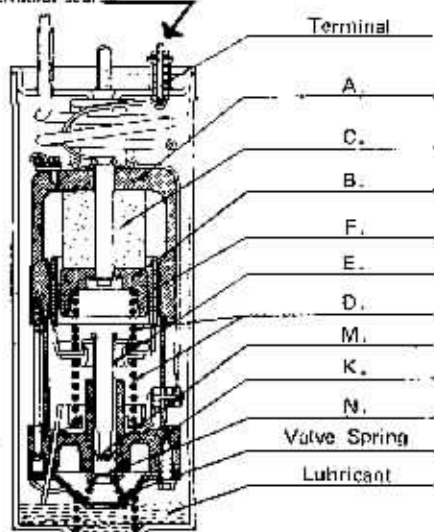

Figure 3 Compressor (Swing motor)
A sectional view is shown in figure 3. The coil (F) is suspended by two springs (D) in the ring gap formed between the yoke (A), pole piece (B), and the permanent magnet